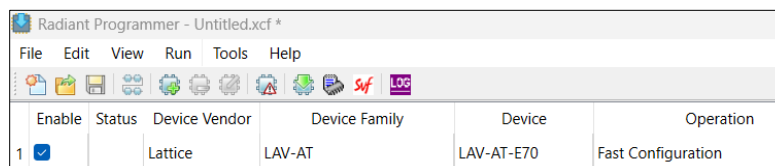

Figure 6.12. Device Selected for Programmer
7. Click on the highlighted item under the **Device** field to un-highlight it as shown in Figure 6.12.